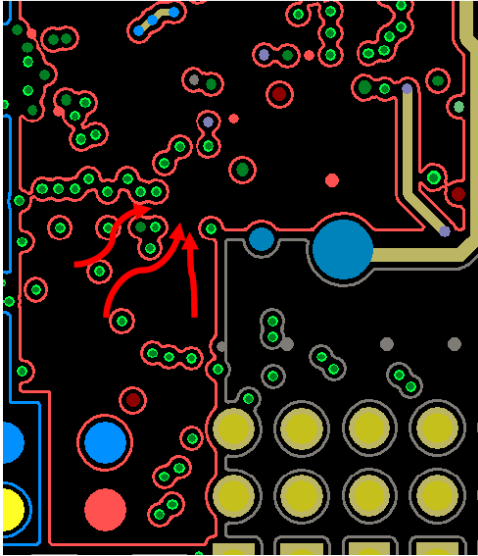

Figure 3-2 Example: via holes blocking the current path on the power plan
- If power planes are used, avoid via holes as they will break the integrity of the power plan. Figure 3-2 shows how via holes can block the current path on the power plan.